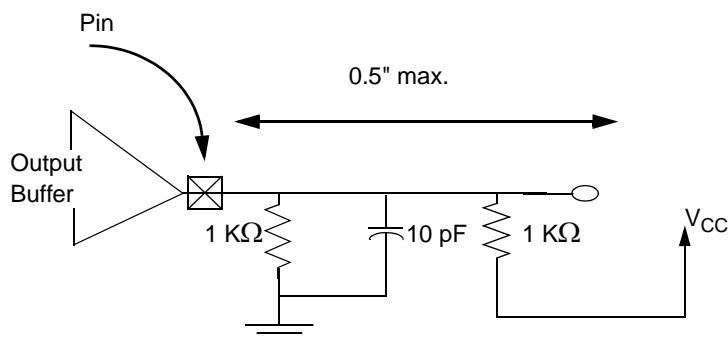

Figure 7-10. Testing Setup for Slew Rate and Minimum Timing
3. Rise slew rate does not apply to open-drain outputs. This parameter is interpreted as the cumulative edge rate across the specified range, according to the test circuit in Figure 7-10.